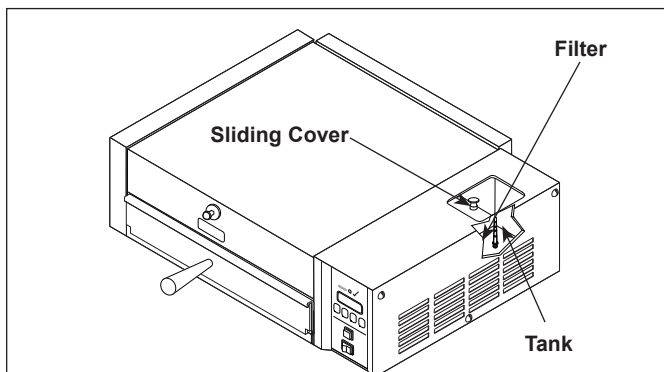

Figure 2. Filling Water Tank–MS-150/155
1. **MS-150/155:** Open the sliding tank cover on top of the unit (Figure 2).